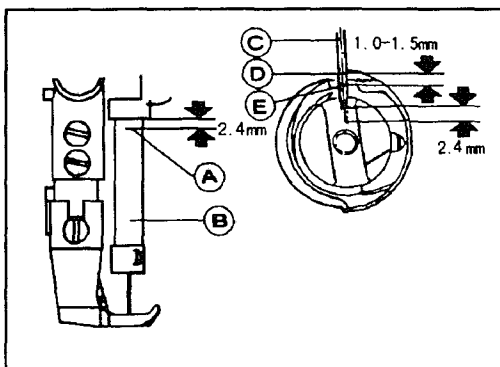

Fig. 19
Timing of needle motion to rotating hook motion has a great effect on sewing performance. The standard hook point timing (See Fig.19) is to align Hook Point (D) and Needle Centerline (C) when Needle Bar (B) is lifted by 2.4mm from the lower end of its stroke. Besides, Hook Point (D) should be 1.0-1.5mm above the upper end of needle eye (E).